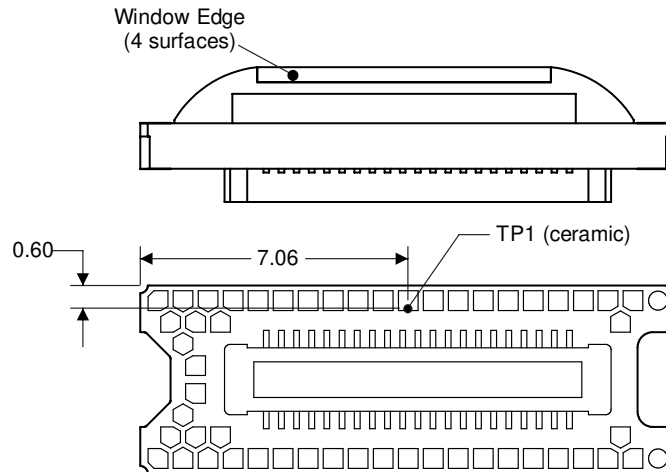

図 7-1. DMD Thermal Test Point
- $T_{\text{CERAMIC}}$  = Measured ceramic temperature (°C), TP1 location in 図 7-1
- $Q_{\text{ARRAY}}$  = Total DMD power; electrical plus absorbed (calculated) (W)
- $Q_{\text{ELECTRICAL}}$  = Nominal DMD electrical power dissipation (W)